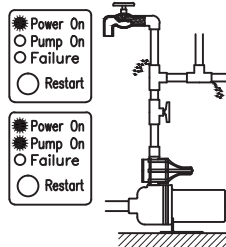

Figure 15
POWER ON light on, FAILURE light off and PUMP ON light short cycles on and off. Tap closed, pump cycles on and off (Fig.15).
1. The condition may be similar to condition 1 (Fig.15) above but leak flow rate is greater than 0.21 gpm. In this case the leak simulates an open tap condition. Follow instructions for condition 1, figure 15 above.